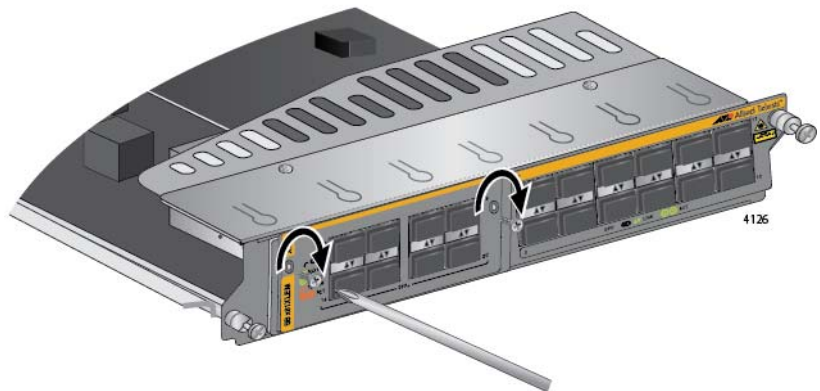

Figure 94. Securing the Expansion Module
10. With a Phillips-head screwdriver, install the two screws from step 4 to secure the expansion module to the line card. Refer to Figure 94.